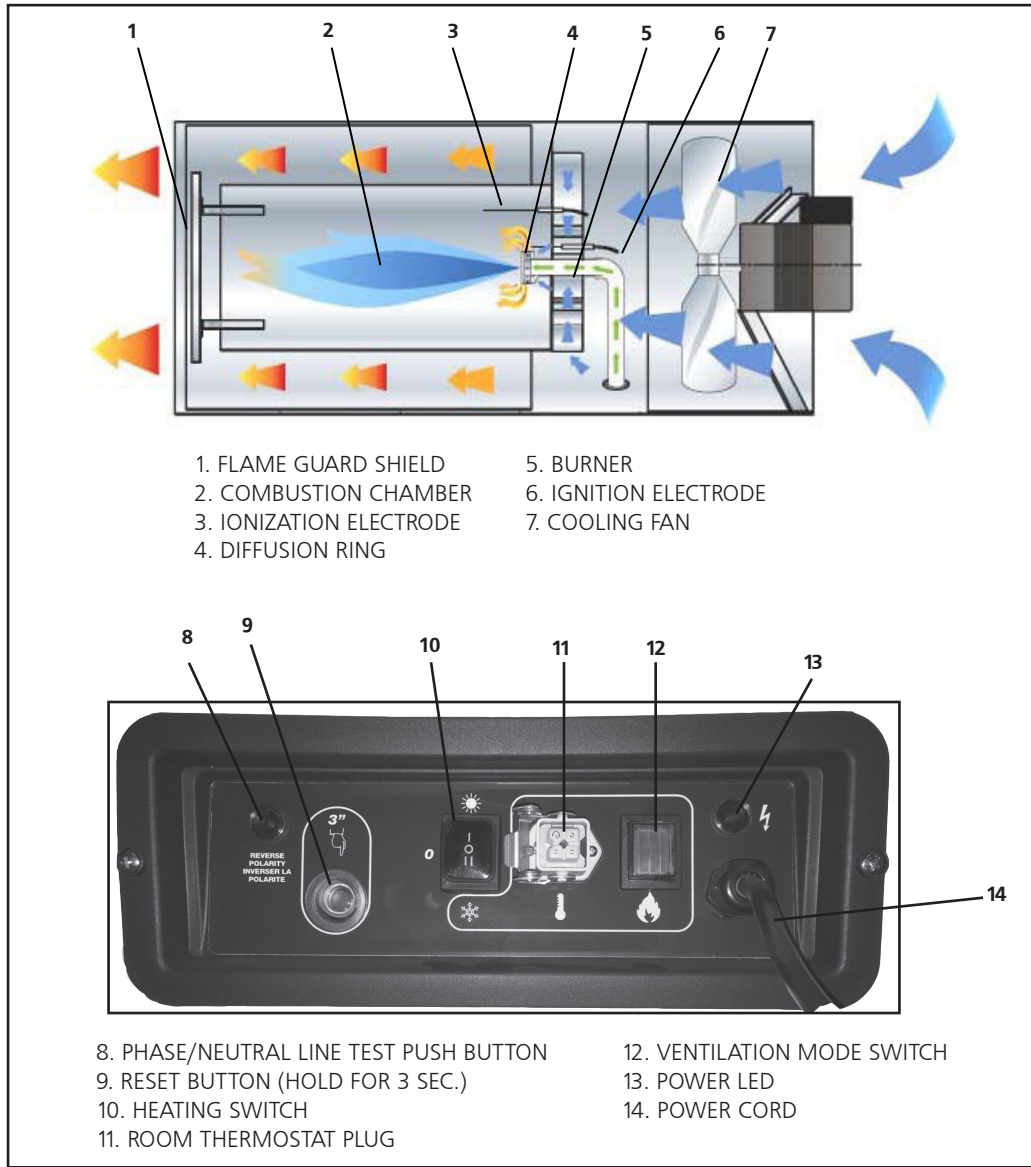

FIG. 1
- Make sure switch (10) Fig.1) is on "0";
- If the unit is operated manually turn the switch (10) Fig 1) to position "I".
- If the unit operates automatically, (being connected to any thermostat or any other control device) set the room thermostat at the desired level and turn the control knob (10) in Fig. 1) to "II": the heater will now start and stop automatically.
- In manual operation push switch (8) Fig. 1) to "0" or turn off thermostat control in automatic operation.
To obtain the ventilation effect switch (12) Fig. 1) on control panel, select the post-ventilation mode, that is the time the fan goes on blowing air when unit is switched off:
- when switch (12) Fig. 1) is on pos. "0" then post ventilation lasts for 30 sec.
- when switch (12) Fig. 1) is on pos. "I" then post ventilation is continuous.